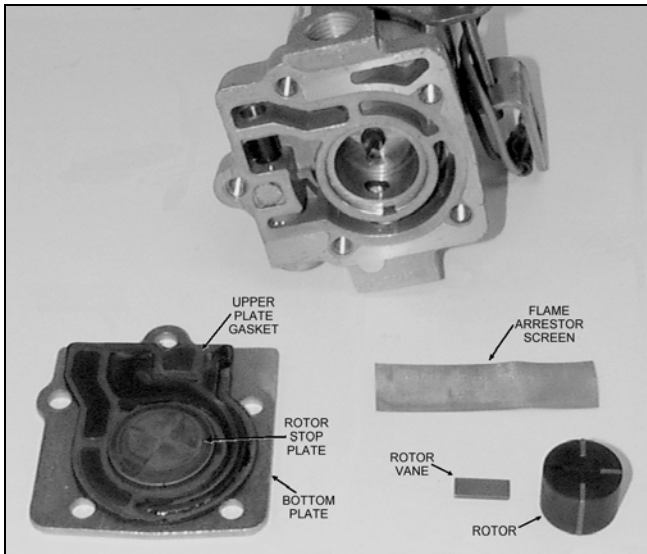

Figure 5
4. Remove the flame arrestor (note the position of the screen). Remove the rotor vanes and rotor by inverting the pump. Lay all pieces on a flat clean surface. See Figure 5.